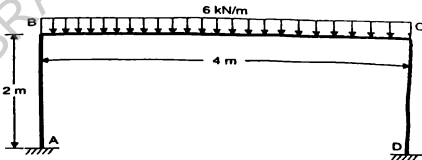

Figure 4
14. Analyze the portal frame as shown in Figure 4 by Kani's method. Draw the Bending Moment Diagram and sketch the deflected shape of the frame. Take EI as constant for all the members :